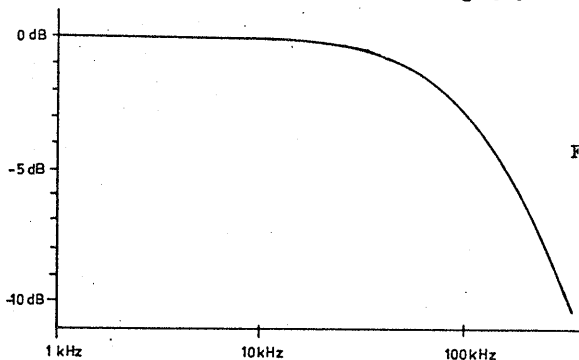

Fig. 3-3
Frequency response of meter indication when in the filter-in state is shown in Fig. 3-3.
- 7) For measurement at a high sensitivity, connect the 100 kHz low pass filter (-3 dB at 100 kHz) by depressing pushbutton (7) of Fig. 3-3, in order that the input signal can be measured with low noise. This feature is especially advantageous when the signal source impedance is high.